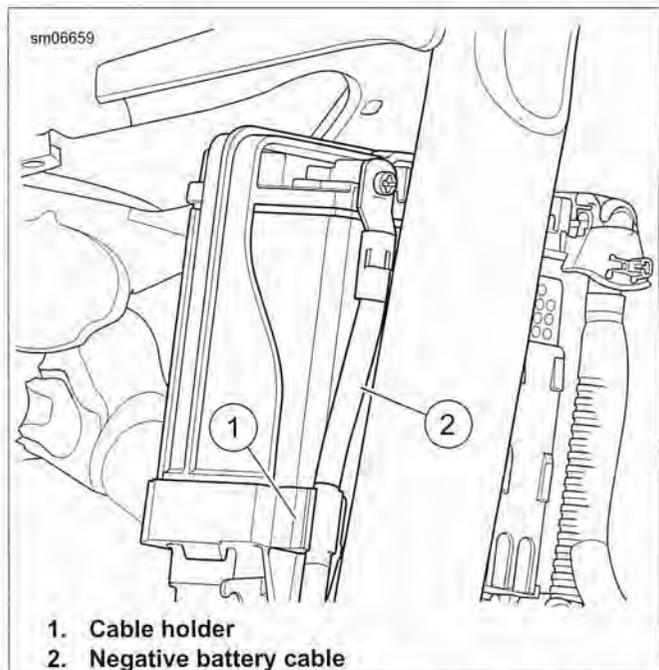

Figure 1-61. Negative (-) Battery Cable Holder
3. See Figure 1-61. Pull end of negative (-) cable (2) forward gently to free it from cable holder (1).
6. Hook top of battery strap (4) to battery tray mount on top of battery. Install strap screw (5). Tighten to 36-60 **in-lbs** (4.1-6.8 Nm).
8. Hook main fuse holder (1) to top pin on battery strap and slide forward until it snaps into place.
9. Hook data link connector (6) to bottom pin on battery strap and slide forward until it snaps into place.
10. See Figure 1-61. Press negative (-) battery cable (2) into cable holder (1).